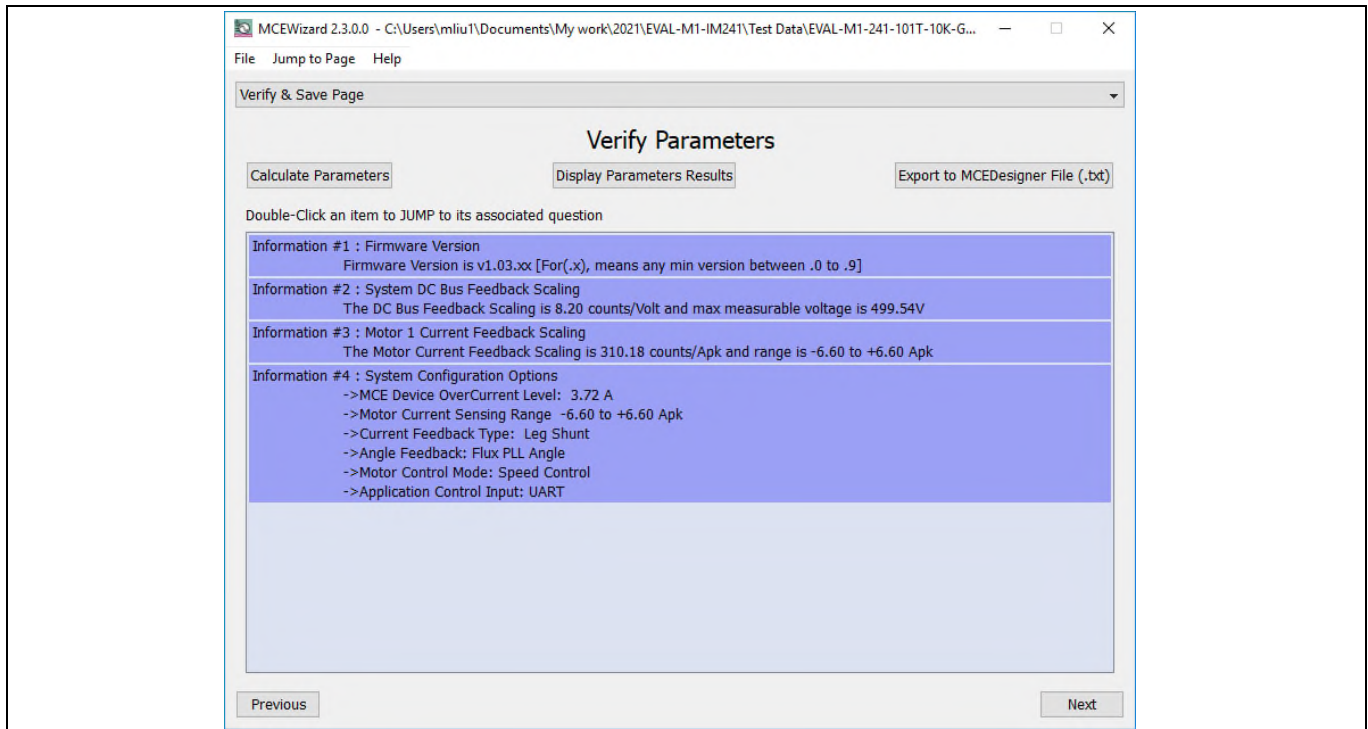

Figure 6 MCEWizard Verify and Save page
4. After system and operating parameters are set, go to the “Verify & Save Page” and click on “Calculate Parameters” button. If no errors are reported, then save the drive parameter set into your project directory by clicking “Export to MCEDesigner file (.txt)” (Figure 6); if an error is detected, double-click on the error message (highlighted in RED) and adjust the related parameter. The saved drive system parameter file will be later used by the MCEDesigner in step 9.